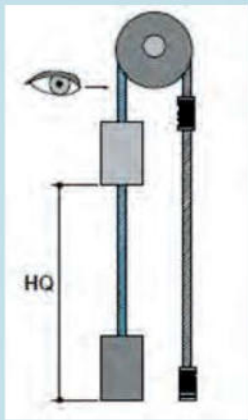

Figure 8: Visually checking rope rotations
- ◆ To ensure proper installation without any torsion or twisting, the ropes should be checked for the number of rotations. The easiest way to check this is to observe the line painted along the ropes during one full trip. Stand in the machine room near the hoist machine and count the rope rotations. The number of rope rotations must not exceed one for about every 100 ft of rope length (Figures 8 and 9).